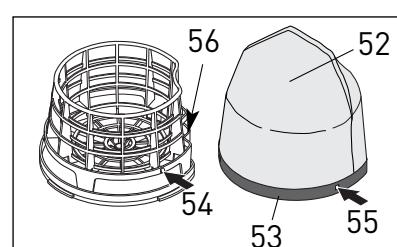
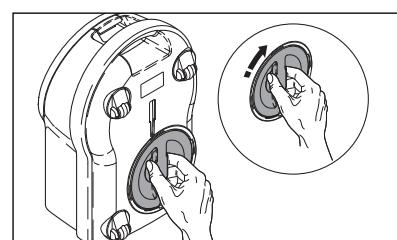

Figure 30
Figure 31
After 10 to 20 bags have been used, change the micro filter (52). To remove the micro-filter, switch off the power and unplug the vacuum. Press the release button (51) located on the filter holder (27) as shown in figure 28. While holding the button in, rotate the holder counter-clockwise and pull it out. Remove the filter (52) from the filter holder (27) by pulling the rubber strip (#53, figure 29) away from the notches (54) that hold it onto the base of the filter holder then pulling the filter off. Fit the new filter down over the holder, lining up the notches (54) on the holder with the holes (55) in the red rubber strip. The two tabs located on the indented portion of the red filter rim hook onto the holder rim (see position #56, figure 30). Tuck the peak of the filter down as shown in figure 29. Insert the assembly back into the machine and turn the holder cover clockwise (figure 31). It is not necessary to press the release button to close the filter holder.